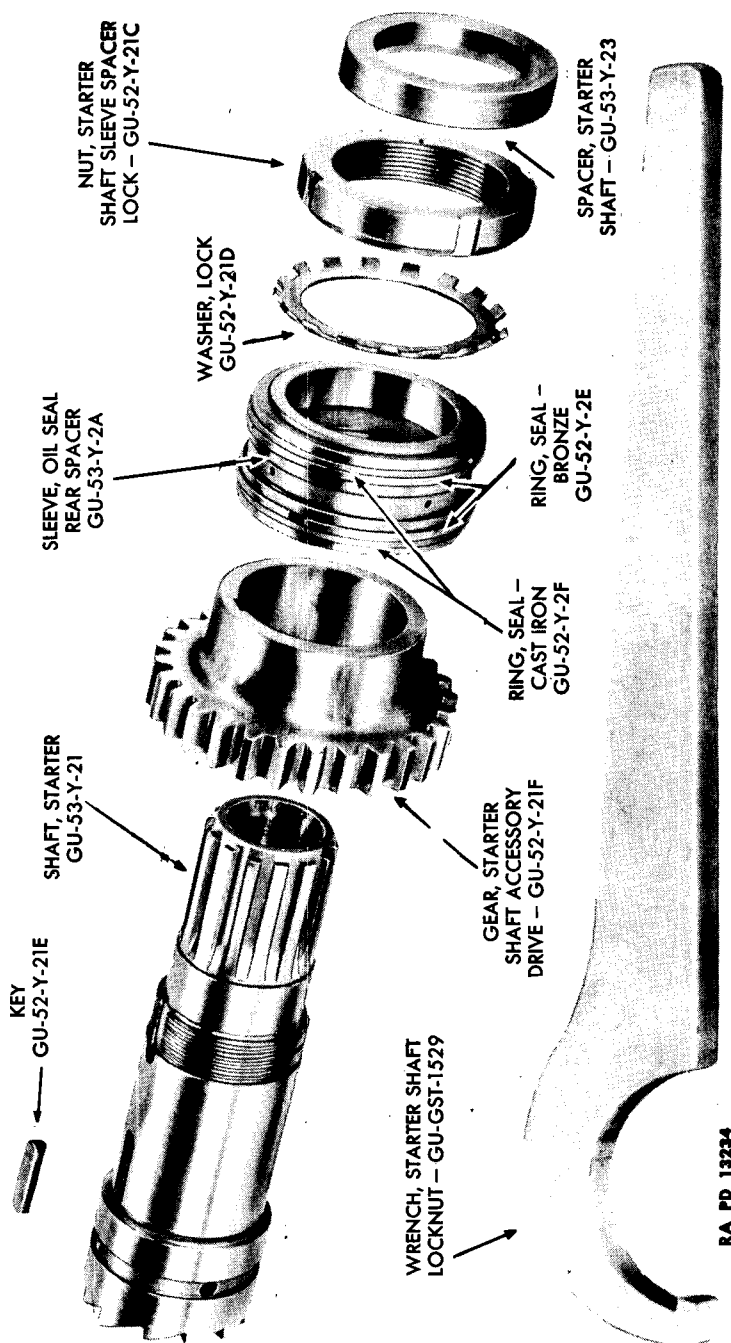

Figure 71—The Starter Shaft Subassembly
87. INSPECT THE STARTER SHAFT SUBASSEMBLY (fig. 71).